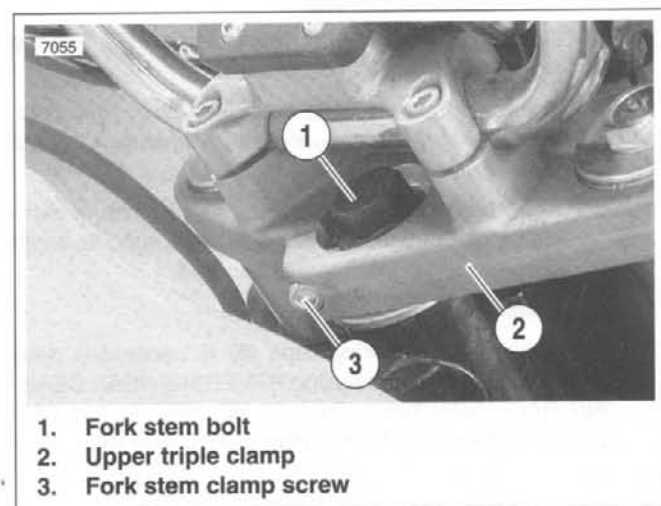

Figure 2-107. Fork Stem Clamp Screw
- c. Press bearing (4) with small end up onto fork stem and lower triple clamp (6). Use the pipe as a press-on tool.
4. Insert lower triple clamp (6) through the steering head. Install the upper bearing (4) with small end down and dust shield (3) onto fork stem.
5. See Figure 2-107. Apply LOCTITE ANTI-SEIZE to fork stem bolt (1). Loosely install upper triple clamp (2) using fork stem bolt.
- a. Tighten fork stem bolt (1). Check bearing adjustment to set fork stem bolt to proper tension. See 1.19 STEERING HEAD BEARINGS.
- b. Make sure the fork stem turns freely, then tighten the fork stem clamp screw (3).